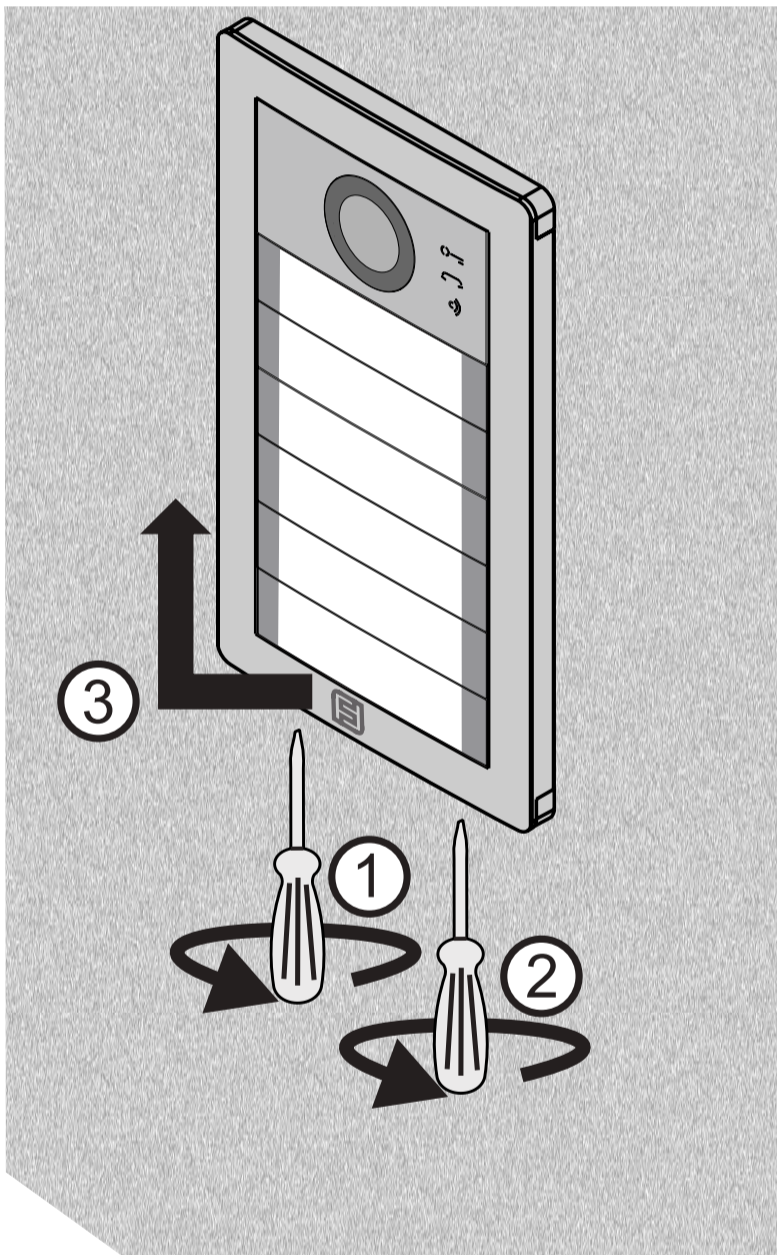

Fig. 8
- Remove the hood cover (figure 8).